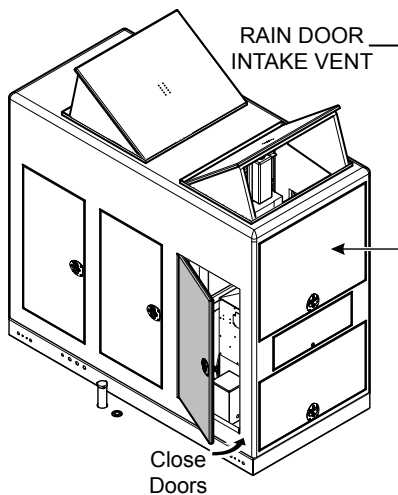

Figure 29. Engine Enclosure Doors
- Close the enclosure doors once the generator has started (Figure 29). Top vents stay open for proper ventilation.